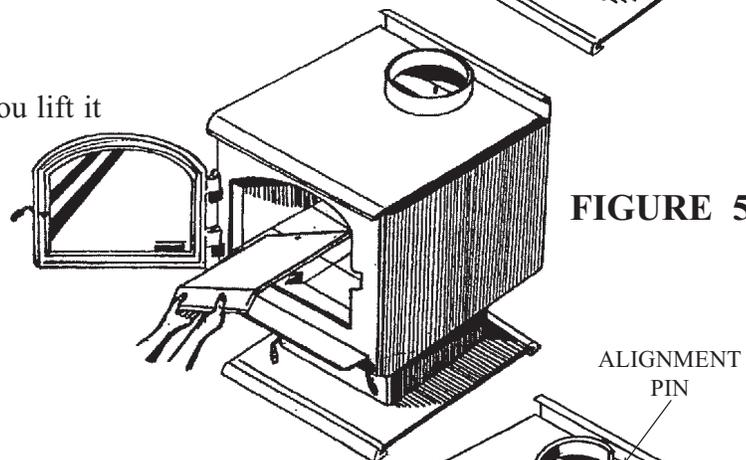

FIGURE 5
7. Keep the baffle tilted as you lift it out the door. See **Figure 5**.